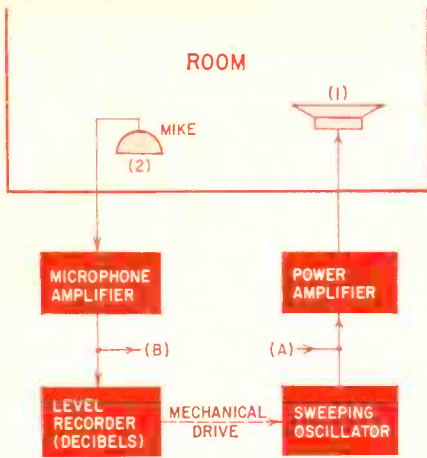
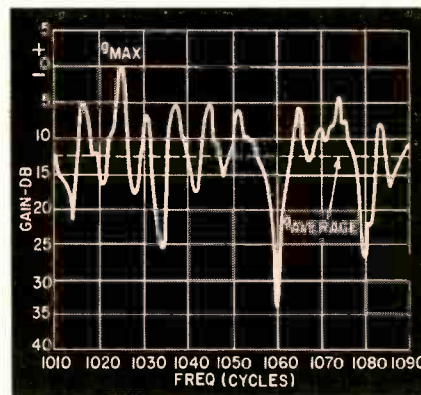
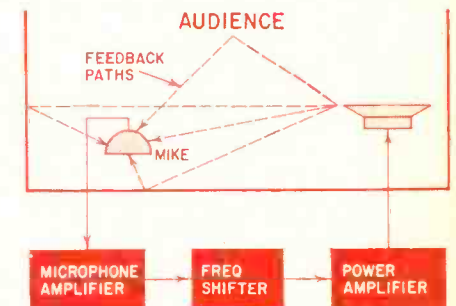

Fig. 1—How to get the steady-state frequency response between two points in a room.
Fig. 2—Over an 80-cycle spread, amplifier gain may show a variation of more than 30 db.
Fig. 3—The frequency shifter is inserted between the microphone amplifier and the power amplifier.
frequency and recording the output of the microphone with a level (decibel) recorder. This is shown in Fig. 1. Such an experiment was performed by E. C. Wente1 at Bell Telephone Laboratories in 1935. Dr. Wente was very much surprised at what he saw when he looked at the response records. A small section of such a frequency is reproduced in Fig. 2. In Dr. Wente's own words: "Within this small range of frequency, there are a large number of peaks and valleys and the variations in level are as much as 40 db. Any communications engineer looking at this transmission curve would classify the corresponding transmission system as a very poor one, perhaps incapable of transmitting intelligible speech."
Nevertheless, this is the kind of response a PA system operating in a room has to cope with and, as we pointed out above, it is just poison. The amplification or loudness of the PA system plus the room is given by the average level,  $g_{average}$ , indicated by a dashed line in Fig. 2. The maximum permissible stable gain is limited by the highest response peak, indicated by  $g_{max}$ . If rooms had flat responses (the dashed line in Fig. 2) or if they could be flattened by some trick, the gain could be raised by an amount equal to the difference between  $g_{max}$  and  $g_{average}$ , 12.5 db in the example of Fig. 2.
The trick is to shift all frequency components of the signal by a small but constant amount. The frequency-shift apparatus may be inserted between the microphone amplifier and the power amplifier, as shown in Fig. 3, or incorporated in either one.
Now that we know that frequency shifting does not hurt us, the next question is, "Does it help?" To answer it, we refer again to Fig. 2. As the signal we assume a simple 1,025-cycle sine wave. The gain for this frequency is  $g_{max}$ . If in Fig. 1 the input of the power amplifier (A) is connected to the output of the microphone amplifier (B) to form a PA system and if the gain is raised by a slight amount, our sine wave will continuously grow in amplitude for every trip around the feedback loop.†
With frequency shifting (see Fig. 3), the picture is completely changed because, for every trip around the feedback loop, the frequency of our signal is shifted by, say, +5 cycles. Thus, on the second trip around, the signal frequency is 1,030 cycles for which the
loop gain, according to Fig. 2, is about -10 db. On the third trip around the feedback loop, the signal frequency is again shifted by +5 cycles and is now 1,035 cycles. The gain for 1,035 cycles is again about -10 db. And so forth. In short, the cumulative amplification of a signal as it goes round and round the feedback loop is no longer determined by the possibly very high gain at its original frequency but by the average gain of the room response. Thus, while the room response is actually unchanged, from the feedback point of view it is as if the peaks of the response had disappeared and been used to fill up the valleys of the response curve. Frequency shifting does the seemingly impossible. No matter how jagged the response is, it completely flattens it, at least as far as feedback stability is concerned. And that is what we are interested in.
Now that we know that frequency shifting is so helpful, the question naturally arises as to whether there is an optimum value for the amount of shift. Here again a look at Fig. 2 provides the answer. Obviously, if we are shifting only a minute amount, say 1 cycle, it will take the signal many trips around the feedback loop (Fig. 3) before it is shifted enough in frequency to reach the next valley—a point of low amplification. In the meantime, the signal may have built up to a very large amplitude. An optimum or, in any case, a good value for the frequency shift is the average distance between the peaks and valleys. In this manner, a frequency component that starts out at a point of high gain reaches a point of low gain as quickly as possible, namely after one trip around the feedback loop.